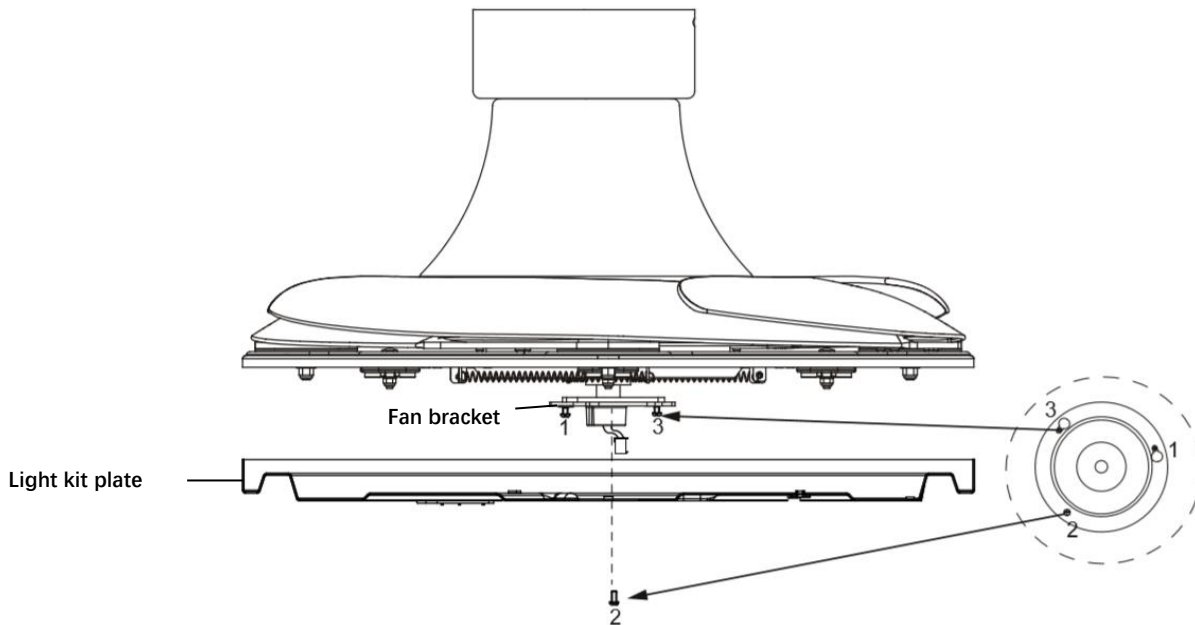

Fig. 6
LIGHT KIT INSTALLATION (Fig. 6 & 7)
1. Loosen the screw (2) from the fan bracket. Align the two slot screws (1 and 3) with the keyhole slots (1 and 3) of the light kit plate. (Fig. 6)
3. Secure screw (2) to the light kit plate. Tighten all three screws. Do not over-tighten.